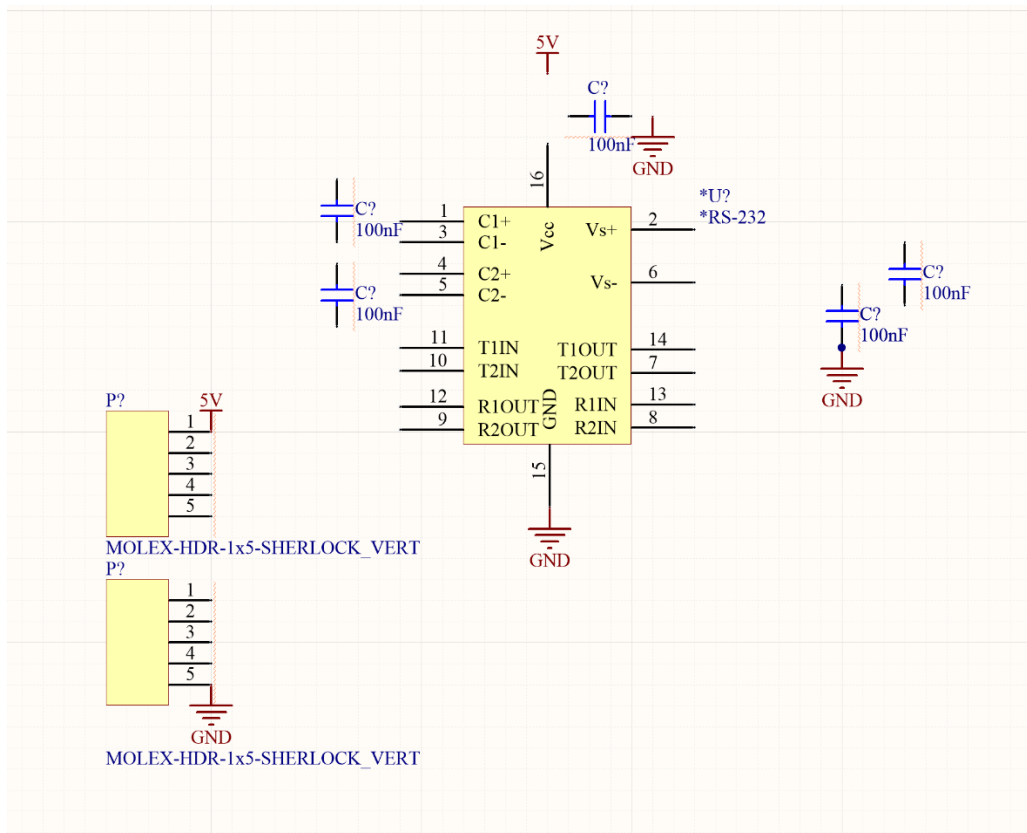

Figure 11: Updated Schematic with Ground and VCC Nodes
21. Select “Place GND power port” and place it in the locations specified in Figure 11.
23. Place it in the locations specified in Figure 11 and double click the components to label them as “5V”.